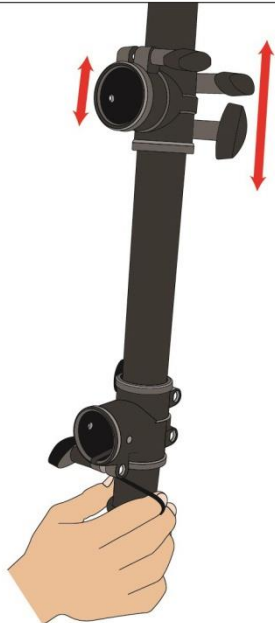

Figure 4
Step 3 – Take Slide Mount “T” collars (Part B) and slide 2pcs on each stand. Tighten the knobs to secure in place, make sure that the T-connectors on one stand is facing the same direction. The direction of where the trusses will join together, and the distance is the same see Figure 4.